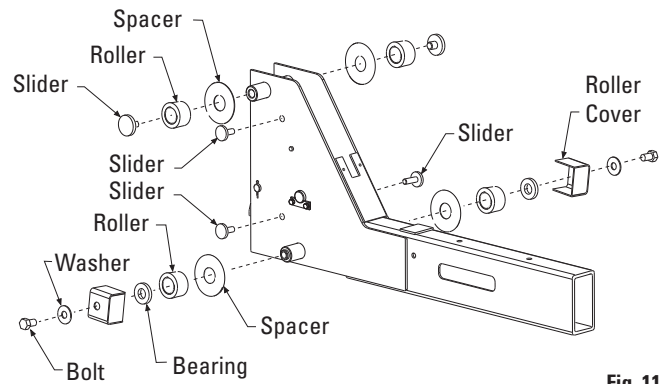

Fig. 11
**7. Front Yoke Roller Assembly:** Assemble yoke rollers and bearings for both front yokes, Fig 11.